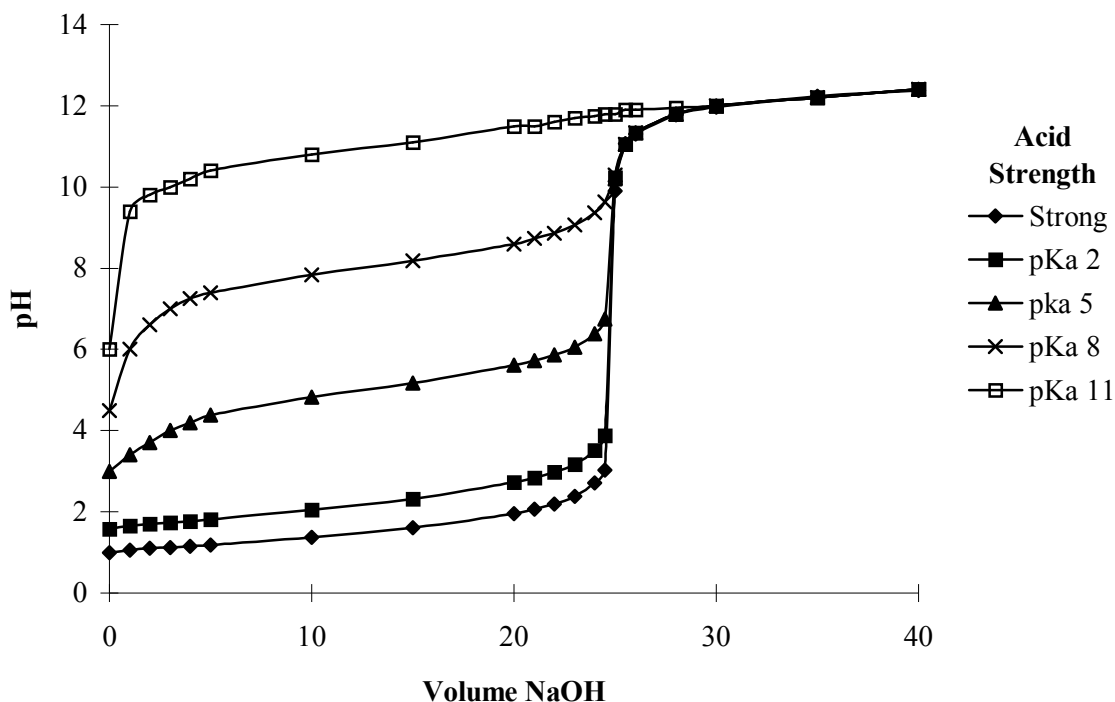

FIGURE 2.5 The effect of acidic strength on pH break
- the strength of the acid and base – their level of dissociation (see Figure 2.5)
What trend is apparent in Figure 2.5?
This only applies to weak acids or bases, where the compound has or reacts with more than one hydrogen ion, and the two reactions have very different $K_{a/b}$ values. For example the weak base, carbonate, can react with two hydrogen ions, and phosphoric acid has three protons of different strengths (see Figure 2.8 – the reason that a third endpoint is not shown is because the third acid is so weak, it doesn't show an endpoint – remember Figure 2.5).